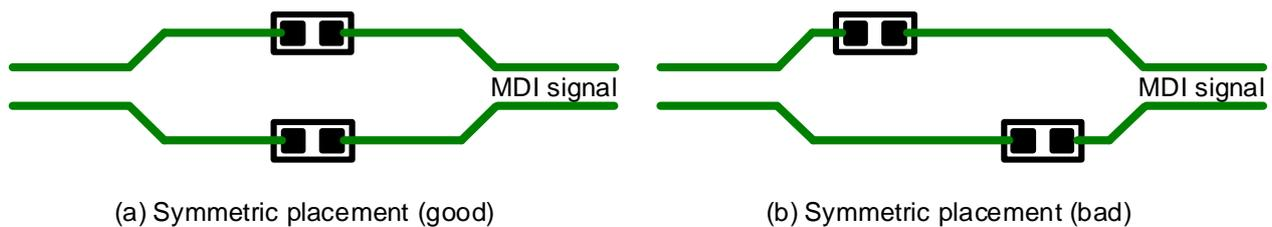

**Figure 6 Return Current (Facilitated by Ground Layer)**
12. Design the board such that, on the ground layer (power supply layer) along the return current path, there are no GND (power supply) slits or ground (power supply) separations. (See Figure 6.)